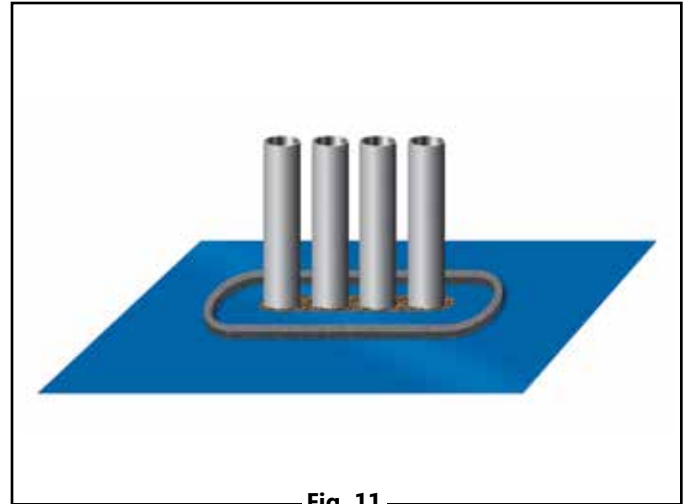

Fig. 11
- C) Create a dam around the penetration area approximately 2" away from the pipe or other vertical penetrations by removing the release liner from the back of foam strip and adhere to the vapor barrier. Form a complete circle to contain the POUR-N-SEAL™ materials (Fig. 11).